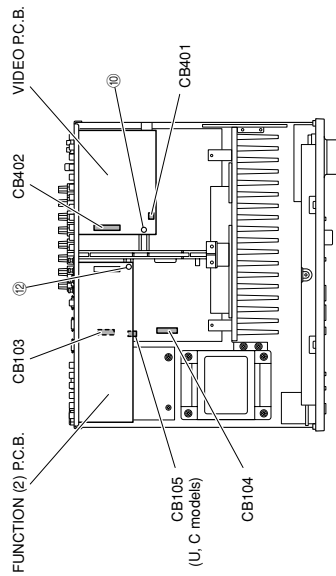

Fig. 3
- a. Remove 1 push rivet (⑩). (Fig. 3)
- c. Remove CB401 and CB402. (Fig. 3)
- b. Remove the VIDEO P.C.B.. (Fig. 3)
6. Removal of FUNCTION (2) P.C.B.
- a. Remove 1 push rivet (⑫). (Fig. 3)
- c. Remove the FUNCTION (2) P.C.B.. (Fig. 3)
- d. Remove CB103, CB104 and CB105 (U, C models). (Fig. 3)